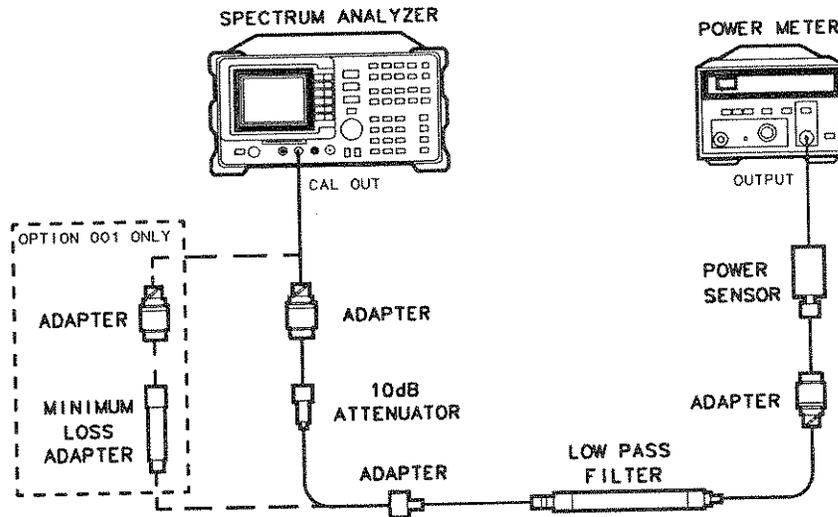

Figure 3-13. Calibrator Amplitude Accuracy Test Setup
11. Connect the equipment as shown in Figure 3-13. The analyzer should be positioned so that the setup of the adapters, LPF and attenuator do not bind. It may be necessary to support the center of gravity of the devices.